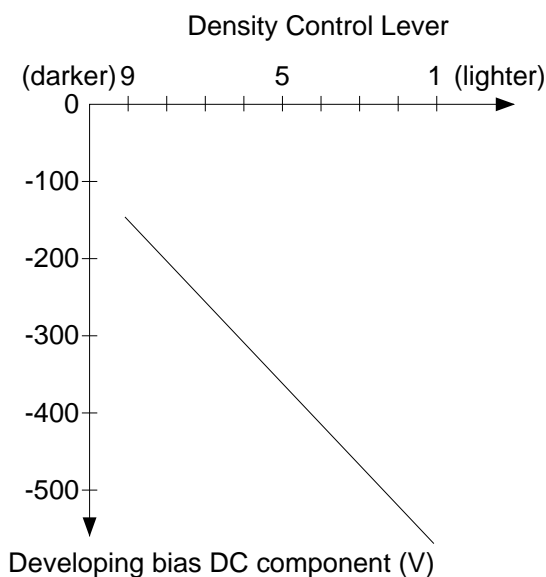
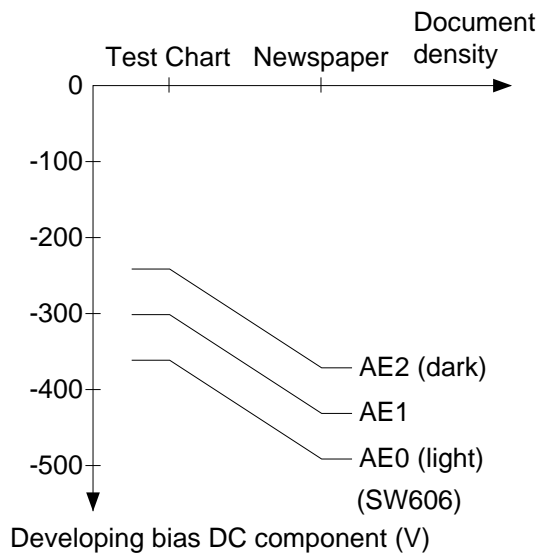

Figure 4-101D
Figure 4-103D
Figure 4-101D,102D shows the changes in the DC component of the developing bias caused by the density control dial/lever in manual density control mode; Figure 4-103D, on the other hand, shows changes in the DC component of the developing bias caused by different document densities in automatic density adjustment mode (AE).